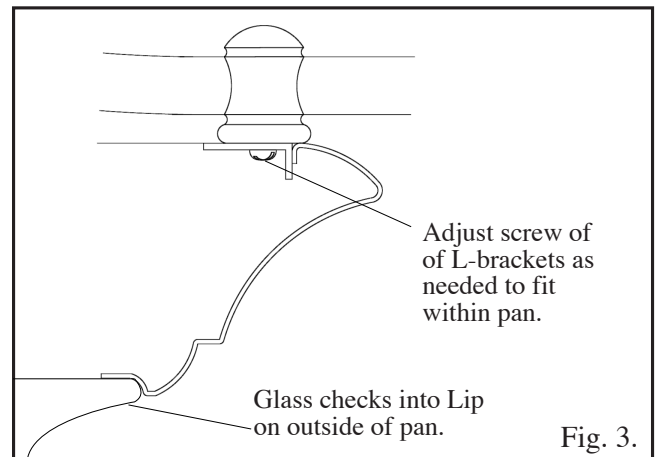

Fig. 3.
5. Sit pan on top of center glass shade and slip them thru bottom threaded pipe. Secure them with washer and hex nut until pan gently touches bottom rods. **NOTE: Glass checks into Lip on outside of pan. L-bracket of bottom rods must be located inside of pan. (See Fig 3.)**